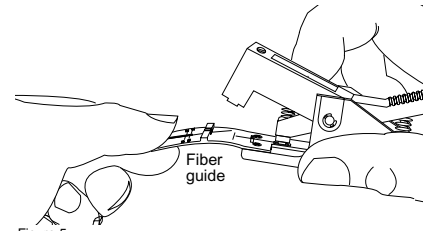

Figure 5
4.6 Flex the fiber guide to snap the fiber(s) (Figure 5). The fiber is now ready for splicing.